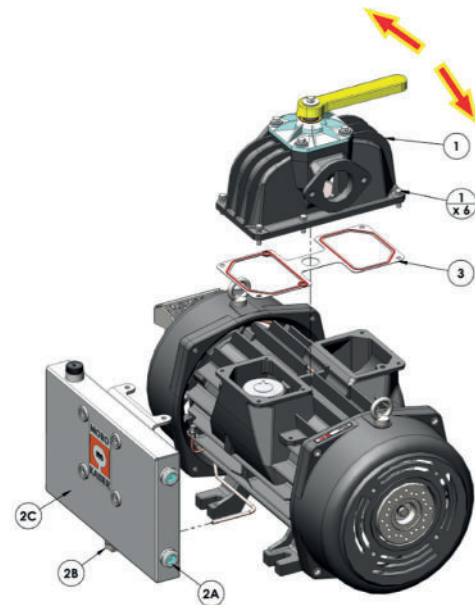

Fig. G.12 - Four-ways valve screw adjustment
- Remove and replace the sealing gasket **pos.3 Fig. G.12**.